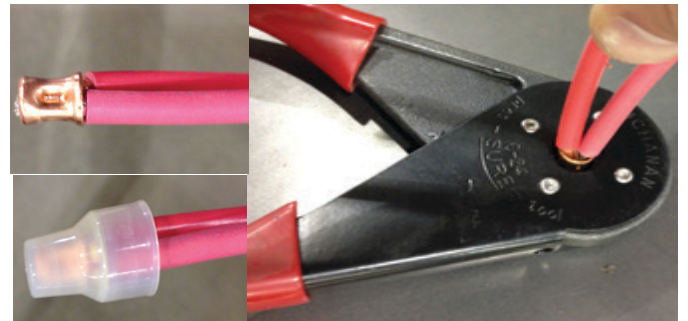

Figure 2
(See Figure 2)
STEP 2: Place metal crimp around the wires, crimp and place protective cover over crimp. (See Figure 2)